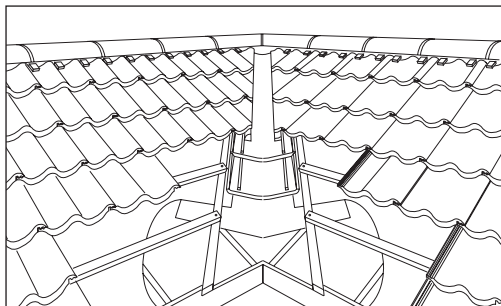

Fig 56 – Timber construction through valley
- Bring tiling battens over counterbattens, cut off flush and nail through (Fig 56).